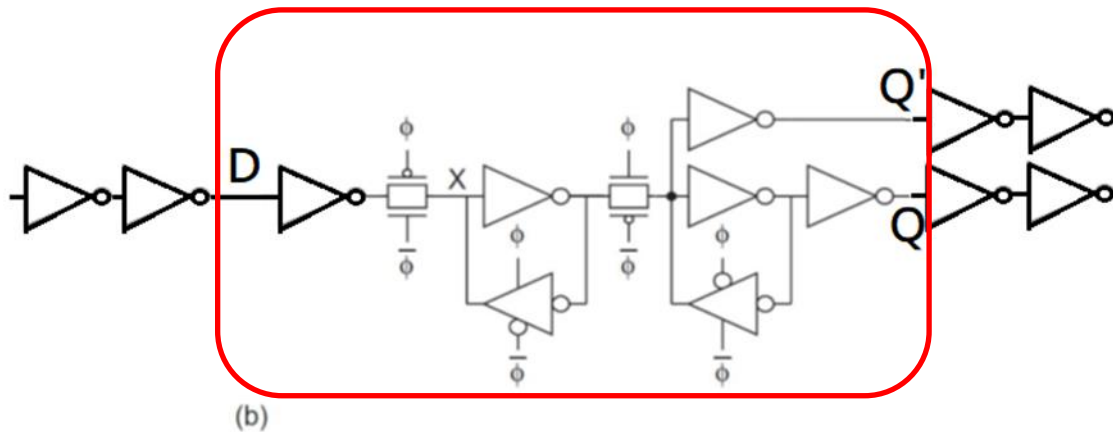

Figure. 9.19(b) D flip-flops
I. Design a D flip-flop [Refer to Figure 9.19(b) in Textbook] (30%)